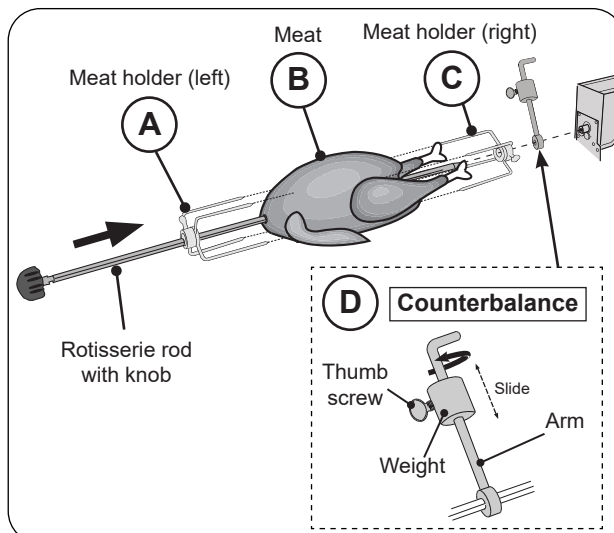

Fig. 42-3 Assemble rotisserie rod for cooking
4. Slide the left meat holder onto the rod and tighten (see Fig. 42-3, A).
5. Then slide meat onto the rod, followed by the right meat holder (see Fig. 42-3, B and C).
8. The counterbalance may then be attached to even weight distribution. Slide the counterbalance onto the rod next to the right meat holder (see Fig. 42-3, D). Loosen the arm and point it upward opposite the heavy side of the meat. Tighten the arm.
9. Slide the counterbalance weight up or down the arm until the rod rotates most evenly then tighten thumb screw (see Fig. 42-3, D).